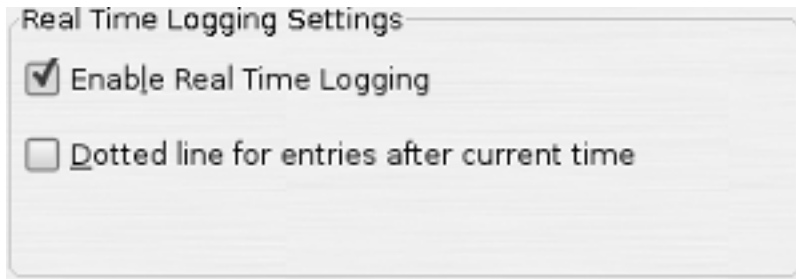

Figure 5.44. Real-Time Logging Setting
2. Under the "Real Time Logging Settings" section make sure the checkbox labeled "Enable Real Time Logging" is checked to enable the real time logging feature see Figure 5.44, "Real-Time Logging Setting".
2. Under the "Real Time Logging Settings" section make sure the checkbox labeled "Dotted line for entries after current time" is checked to enable the dotted line on the log graph for duty status entries after the current time of day see Figure 5.44, "Real-Time Logging Setting".